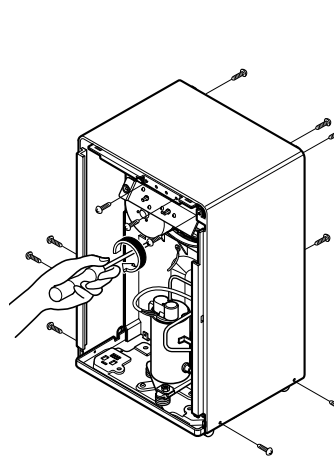

Figure 7
2. Remove 3 screws that fasten Control box assy.(See Figure 7)